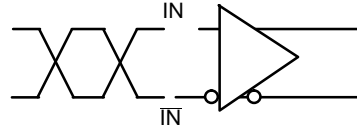

Figure 9. Differential Inputs Driven Differentially
**DIFFERENTIAL INPUTS DRIVEN DIFFERENTIALLY** (Figures 9 & 11) (Note 15)
**DIFFERENTIAL INPUTS DRIVEN DIFFERENTIALLY** (Figures 9 & 11) (Note 21)